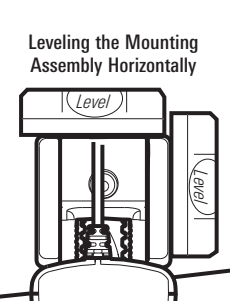

Figure 30
9. Continue to adjust the transducer assembly until the bracket is also level from port to starboard (horizontally level as you look at the transducer from behind the boat (Figure 30)).